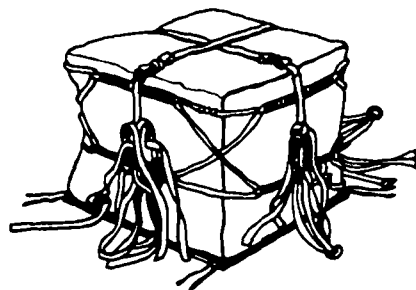

Figure 8-4. Securing the Strap
Step 6 - Route the 188-inch strap over top of the load. Route the free end under the floating safety bar (smooth side) and back over the friction adapter (rough side). Tighten the strap, fold in eight to ten inch loops and secure (Figure 8-4).